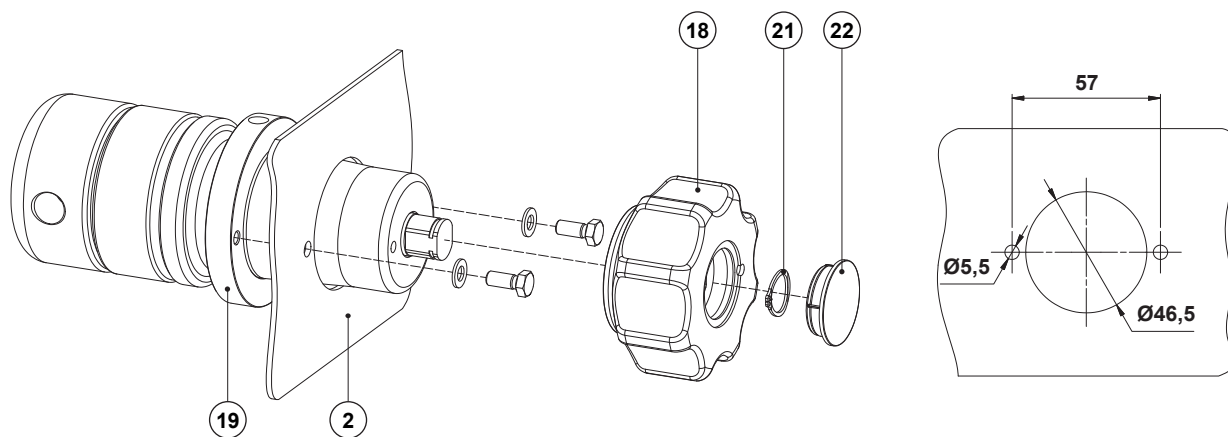

Fig. 2 - Panel mounting procedure
1. Drill the panel surface according to Fig. 2.
2. Remove cover nut (22), shaft ring (21) and adjustment knob (18) from the regulator.
3. Insert the regulator cover (2) through the Ø46,5 mm cut-out, align the panel mounting ring (19) holes with the ones on the panel surface and secure the regulator using two M5 washers and screws (not supplied).
4. Install the adjustment knob (18), fit the shaft ring (21) and cover nut (22).